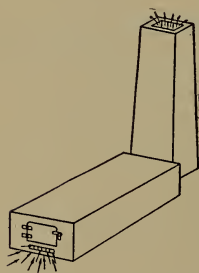

FIGURE 32. — DRAFT
**57. Drafts in Chimneys.** — Drafts in chimneys are due to convection currents. A fire is started in the fire-box of the furnace. (Figure 32.) This warms the air, and causes it to expand and become lighter than the surrounding air. The cold air then pushes the warm air up the chimney and takes its place in the fire-box. This air is then heated, and the process is repeated, or rather it takes place continuously. The higher the chimney, the greater the draft.
Suppose the chimney (Figure 32) were 4 ft. square and 100 ft. high; and suppose the air raised from  $0^{\circ}$  C. to  $273^{\circ}$  C., when the fire started.